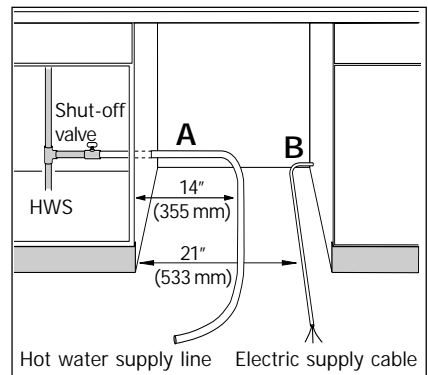

Figure 9
It is recommended that a shut-off valve (not supplied) be installed in the hot water supply line in a readily accessible location, see Figure 9.
It is the customer's responsibility to insure that the dishwasher installation is in compliance with all national and local electrical codes and ordinances. The dishwasher is designed to operate with a 120V, 60Hz, AC only electrical supply. Connect to a separate electrical circuit with a fuse or circuit breaker rated for 15 Amps. A 20 Amp fuse or circuit breaker may be used if the dishwasher is connected with a food disposer, but not more than 20 Amps. Use Copper supply conductors only. The dishwasher should be properly grounded, positioned as shown in Figure 9, and should be installed by a qualified electrician. **No other appliances or outlets should be connected to this circuit.**
- Cut a 1" (25.4mm) diameter hole in the cabinet (in area of Figure 9 B). For wood cabinets, sand the hole until smooth. For metal cabinets, cover the edge with a grommet.